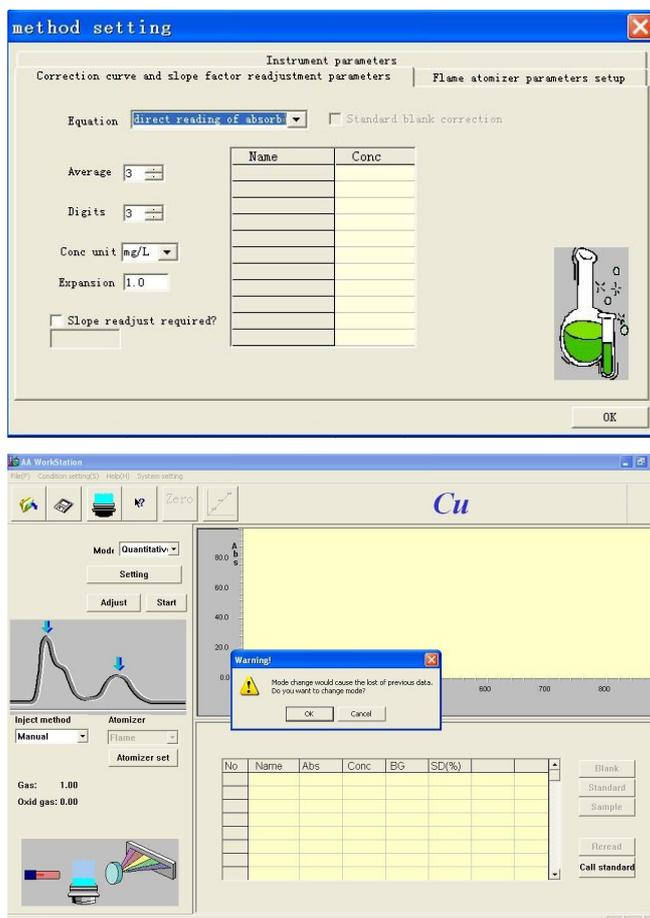

Figure 5-3
7. Select "Direct reading of absorbance" in the "Equation selection" pull-down list. Determine the conditions based on the actual needs. See Figure 5-3.